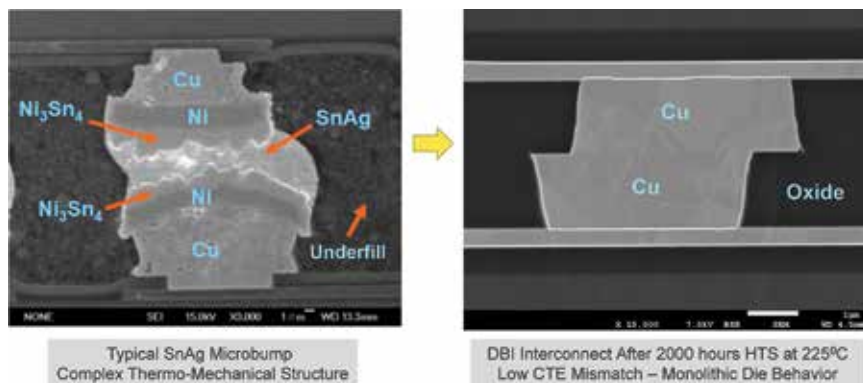

Figure 5. Simplifying interconnects: from microbumps to DBI™.
tions simplify the manufacturing process flow, eliminate the need for underfilling, reduce Z-height, as well as significantly enhance thermal connectivity and vertical heat-flow. In addition, the much smaller DBI contacts, versus microbumps or Cu studs, reduce interconnect capacitance (C) and path inductance (L). Last but not least, the direct Cu-Cu connections offer much less resistance (R) than above-mentioned methods and, with all these RLC advantages, increase circuit performance while reducing heat generation at these vertical interconnects. Figure 5 compares cross sections of both interconnect technologies.